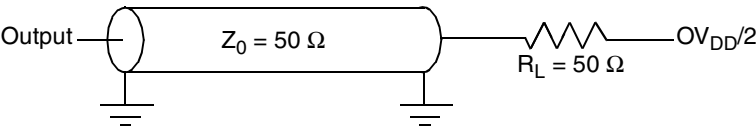

Figure 4. AC Test Load
1. All input specifications are measured from the midpoint of the signal in question to the midpoint of the rising edge of the input SYSCLK. All output specifications are measured from the midpoint of the rising edge of SYSCLK to the midpoint of the signal in question. All output timings assume a purely resistive 50-Ω load (see Figure 4). Input and output timings are measured at the pin; time-of-flight delays must be added for trace lengths, vias, and connectors in the system.
2. The symbology used for timing specifications herein follows the pattern of $t_{(\text{signal})(\text{state})(\text{reference})(\text{state})}$ for inputs and $t_{(\text{reference})(\text{state})(\text{signal})(\text{state})}$ for outputs. For example, t_{VKH} symbolizes the time input signals (I) reach the valid state (V) relative to the SYSCLK reference (K) going to the high (H) state or input setup time. And t_{KHOV} symbolizes the time from SYSCLK(K) going high (H) until outputs (O) are valid (V) or output valid time. Input hold time can be read as the time that the input signal (I) went invalid (X) with respect to the rising clock edge (KH) (note the position of the reference and its state for inputs) and output hold time can be read as the time from the rising edge (KH) until the output went invalid (OX).
Figure 4 provides the AC test load for the MPC7448.